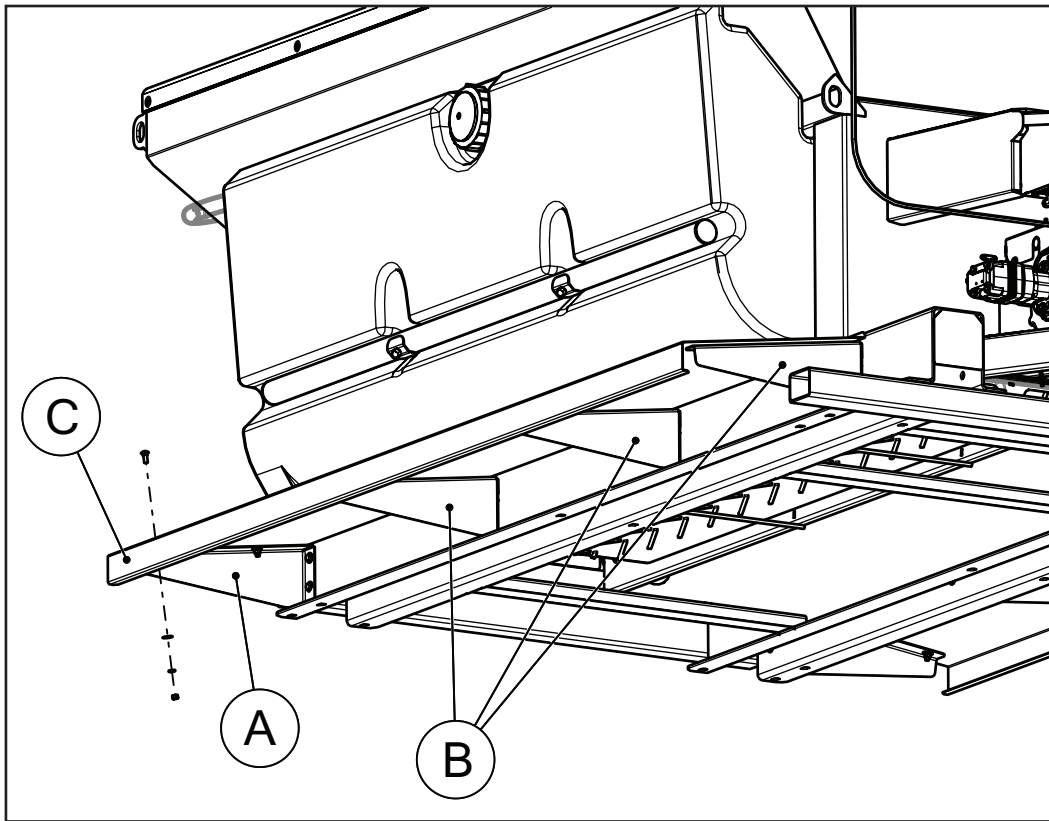

Figure 3 - Fender Installation
1. Figure 3 - Install front fender angles (A) on each side of subframe with bolt flanges pointing rearward.
2. Install all following fender angles (B) with bolt flanges pointing forward.
4. Place fender (C) on fender angles. Align bolt holes and install carriage bolt hardware.